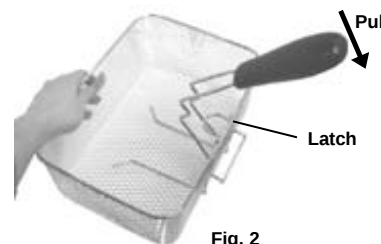

Fig. 2
- Holding the frying basket securely in one hand, pull the handle toward you so that the metal part of the handle fastens securely to the rounded frying basket latch. (Fig. 2)